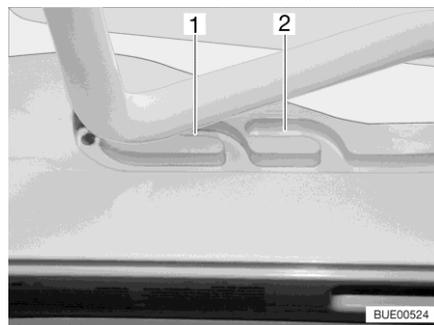
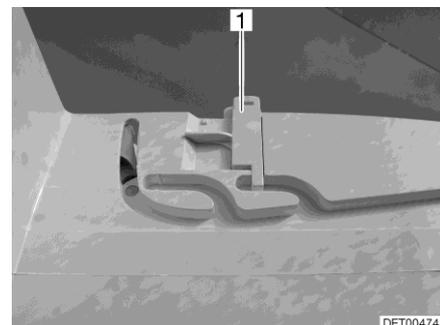

Fig. 109 Guide (ventilation position)
Fig. 110 Lock (ventilation position)
The Heki skylight can be put in two ventilation positions: Bad weather position (Fig. 109,1) and central position (Fig. 109,2). Depending on the model, the skylight can be locked in the central position with both left and right latches (Fig. 110,1) on the skylight frame.
- Push the bar slightly upwards and into the selected guide (Fig. 109,1 or 2) and lock if necessary.